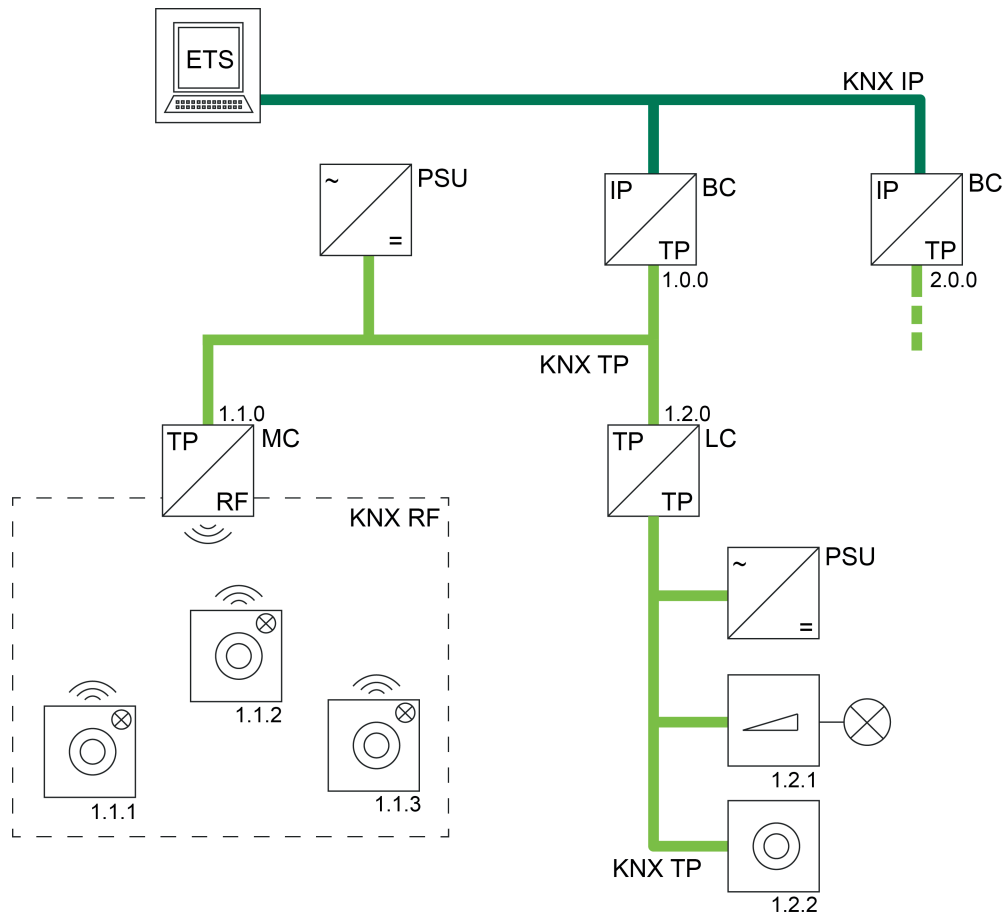

Figure 33: Example of a possible KNX topology with one KNX IP connection of the ETS (KNXnet/IP)
- Use of a KNX IP data interface (KNXnet/IP) (figure 33):